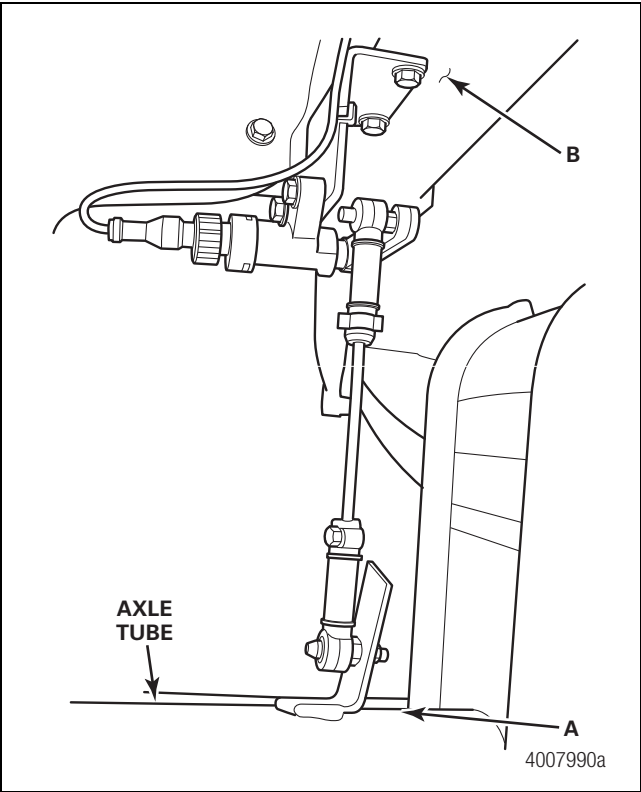

Figure 8.6
- With the trailer **unloaded**, measure from the top of the axle tube (A) to a fixed point (B) on the underside of the trailer. Note the distance. Figure 8.6.
- With the trailer **loaded** (maximum load), measure from the same points (A and B) that were used for the trailer unloaded measurement. Note the distance. Figure 8.6.